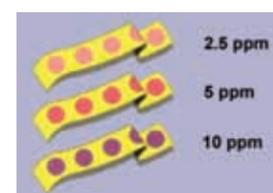

Figure 3: 'HCl' stains on specially formulated SensiTape.
C.I. Analytics has developed a special formula that is deposited on the filter tape. This tape will respond only to HCl. Figure 3 below shows 'stains' developed when testing for total chlorides in propylene sample.